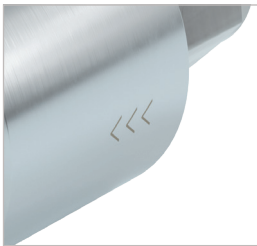

Figure 1
- ▶ The WEH® Product is mounted between two pipe or hose ends of the media line. Installation of the product may be carried out in any position, horizontal, vertical, diagonal etc. **Attention:** Observe the direction of the flow – the flow direction is marked on the filter housing (Figure 1).